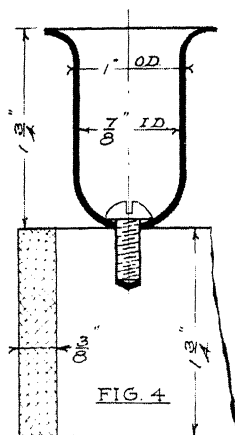

FIG. 4
4. Drill and tap for 8-32 screws (Fig. 4).